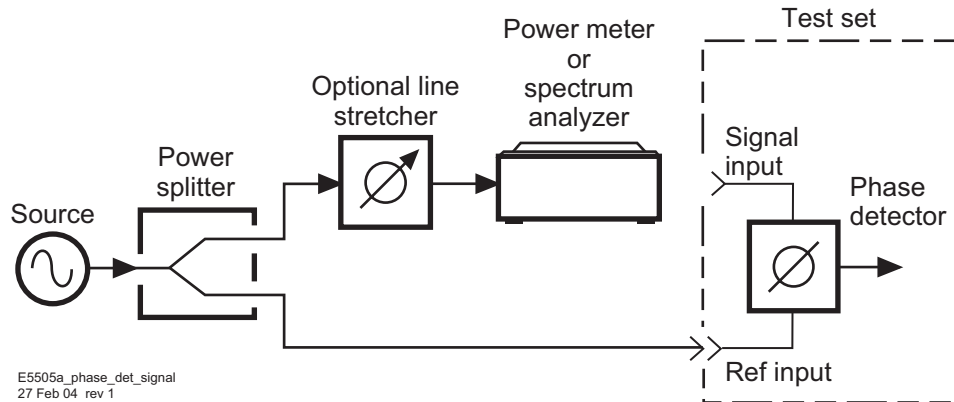

Figure 149 Measuring power at phase detector signal input port
- 1 Connect circuit as per Figure 149, and tighten all connections.